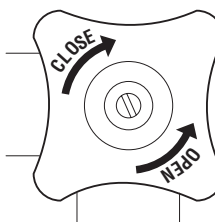

Fig. 7
- (iii)** Turn to the right to horizontal - Normal operating position. See fig. 7.